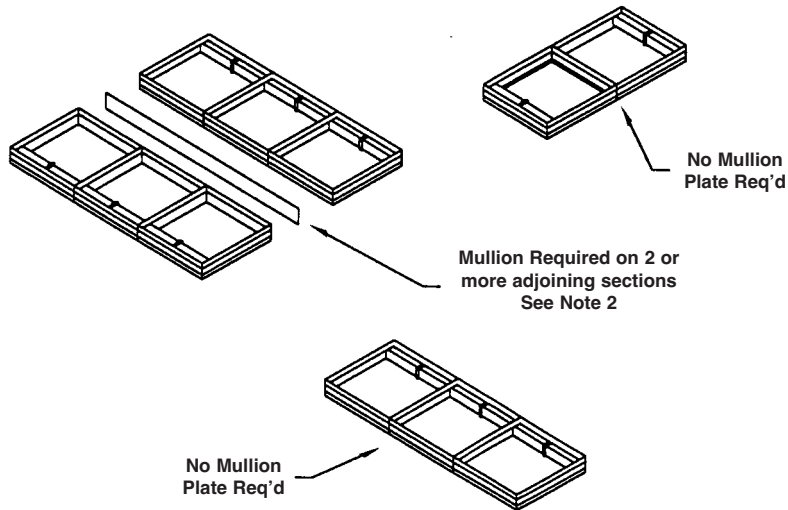

FIGURE 3
Multiple section horizontal mount dampers require a 14 gage thick x 4 1/2" (2 x 114) wide steel reinforcing plate sandwiched between the damper frames with No. 10 (M5) bolts or screws, 3/16" (5) rivets, tack welds or spot welds staggered intermittently and spaced on maximum 6" (152) centers. The reinforcing plate must be the same material as the dampers. The length must be equal to the damper width of two or more adjoining damper sections. Reinforcing plates are not required for assemblies consisting of two dampers attached end-to-end or three dampers attached side-to-side as depicted in figure 3.